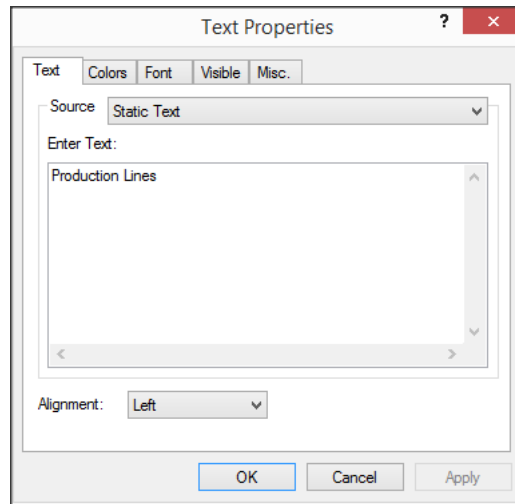

Figure 11.17: The **Text** tab of the **Text Properties** dialog box
- ▶ enter 'Production Lines' (without quotes) in the edit field (see also Figure 11.17), and